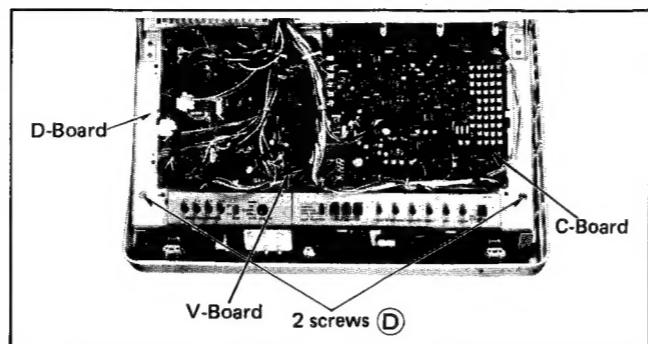

Fig. 5
- Loosen 2 screws **(D)** to counterclockwise by 90° in fig. 5.